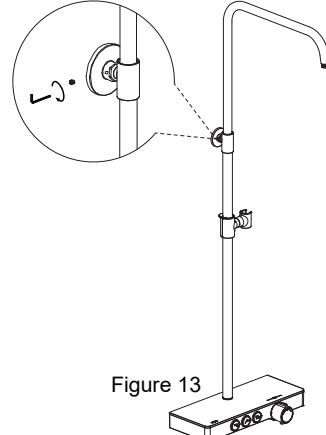

Figure 13
- Connect the pipe connector to the wall holder and use the Allen key to secure (Figure 13).